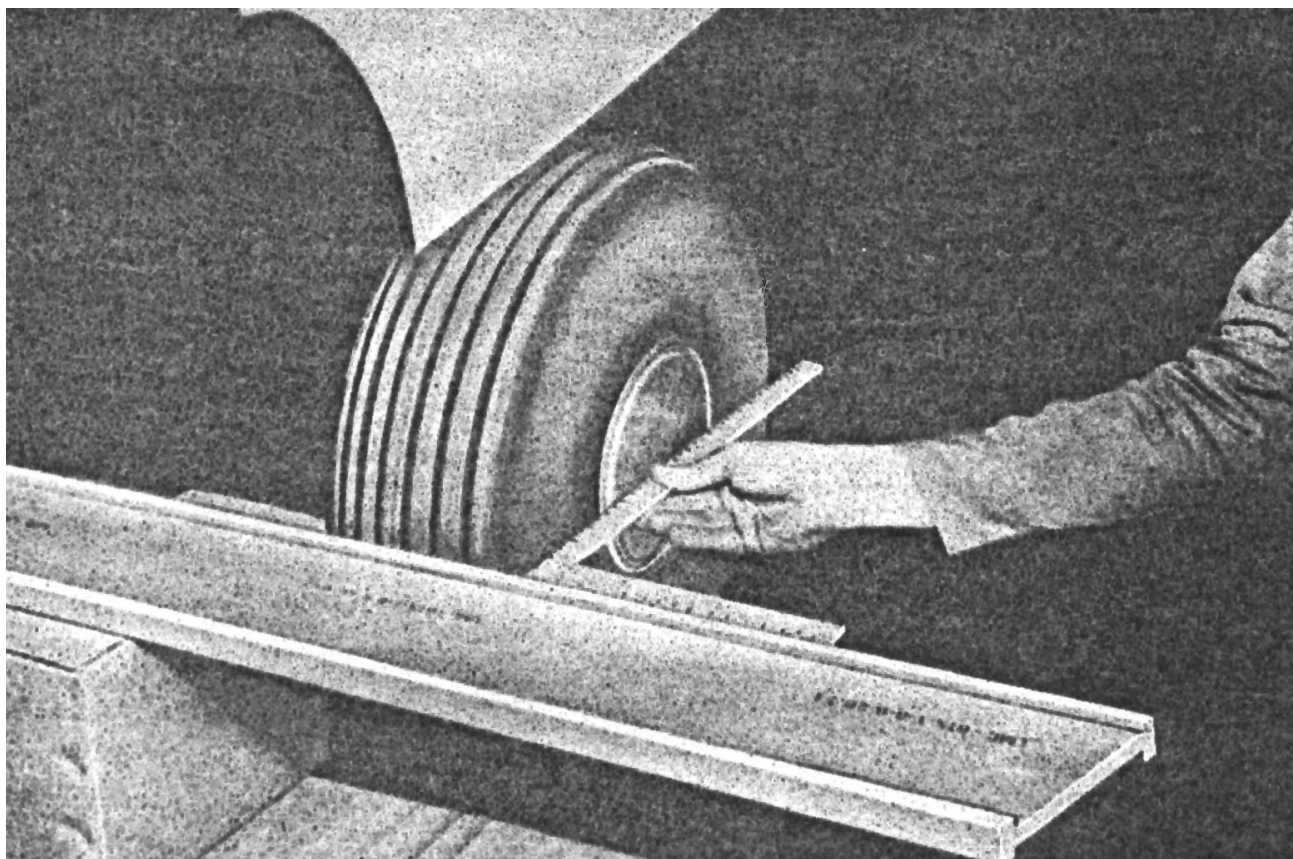

Figure 7-7. Checking Wheel Alignment
- b. Set a square against the straight edge and check to see if its outstanding leg bears on the front and rear sides of the tire. (Refer to Figure 7-7.) If it touches both outboard sides of the tire, the landing gear is correctly aligned. The toe-in for these wheels is 0 degrees.